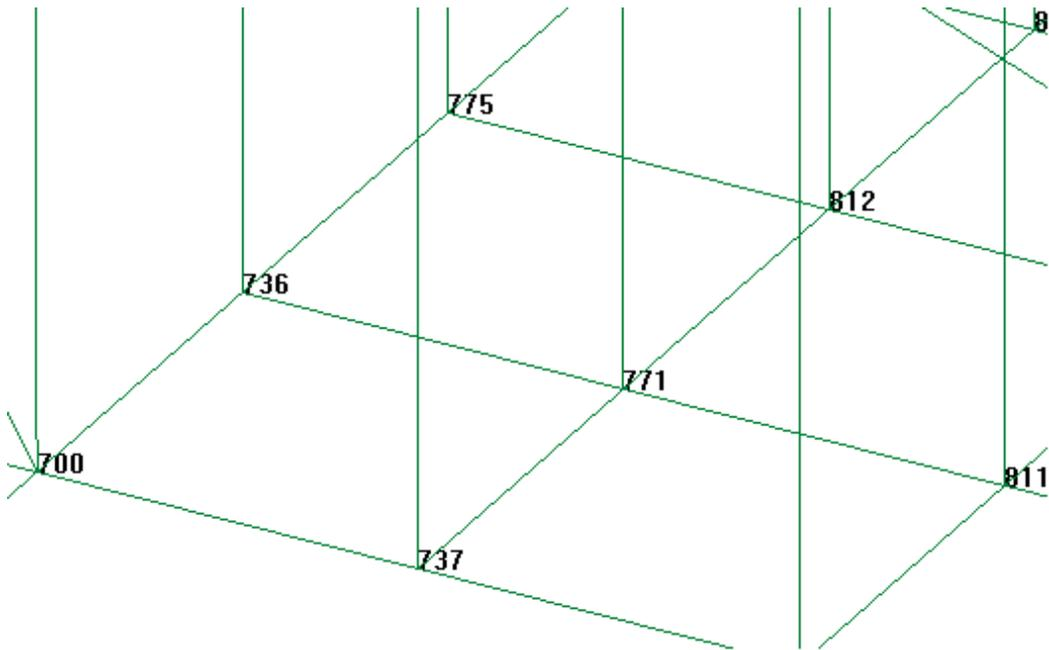

Figure 16. Each number identifies a node. There is a node for each element vertex.
- 1 Select **Label->All in->Points**. The result is shown in Figure 16.